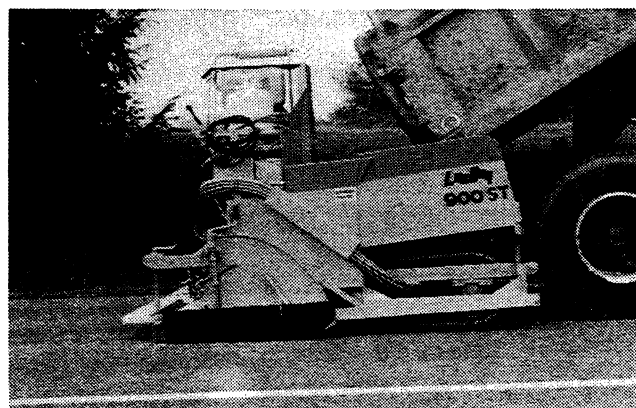

Figure 4-6 – Positioning Truck
- E. It is the operators job to guide the truck up to the paver and signal driver when and how much to dump into hopper. Truck driver must maintain a light pressure on his brakes to keep truck from dumping material on the roadway in front of paver. See Figure 4-6.